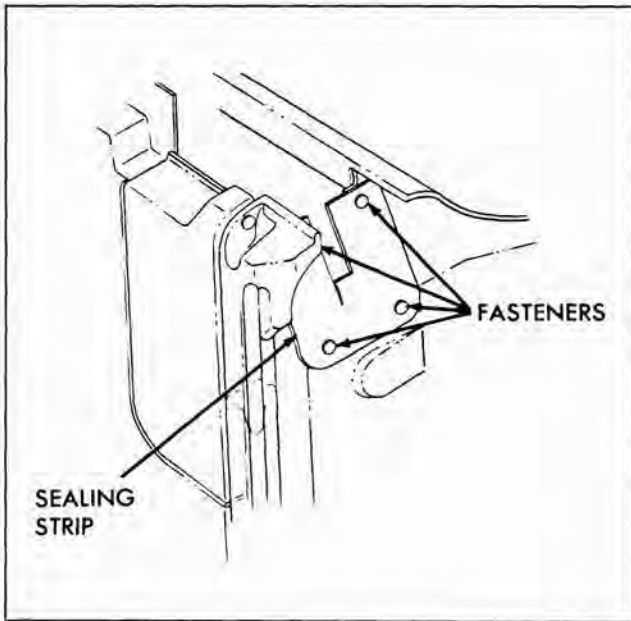

Fig. 3-5 Front Door Lock Pillar
1. Remove snap fasteners securing sealing strip to hinge pillar facing of front door and remove sealing strip (Fig. 3-5).